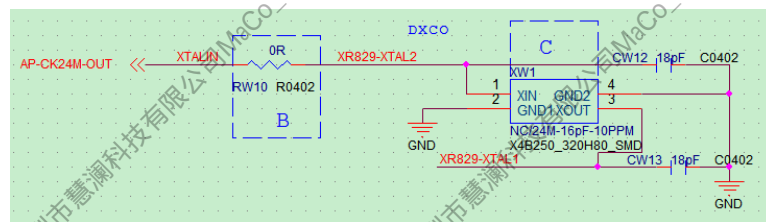

Figure 2-37 The XR829 Circuit Design Without 24M Crystal
- The XR829 can be used in combination with the 24M FANOUT of R818 DCXO to achieve the purpose of saving crystal. If the XR829 uses the 24M FANOUT of DCXO, the CLKREQOUT pin needs to connect to the WREQIN pin of the SoC, the XTAL2 pin needs to connect to the AP-CK24M-OUT pin of the R818, and the XTAL1 pin needs to connect to GND, as shown in Figure 2-37. If the XR829 does not use the 24M FANOUT of DCXO, the CLKREQOUT pin of the XR829 needs to be floated, the WREQIN of the XR829 needs to connect to GND, and the XTAL1 and XTAL2 need to connect to the external crystal.